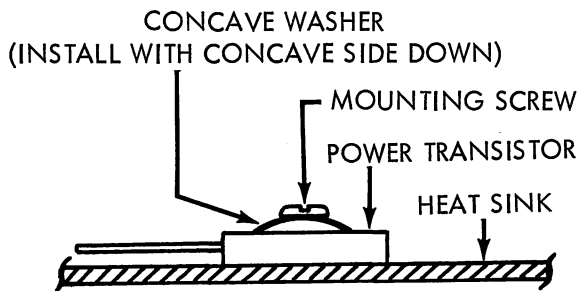

Figure 5. Power Transistor Installation
4. Mounting screws are tight (see Figure 5).